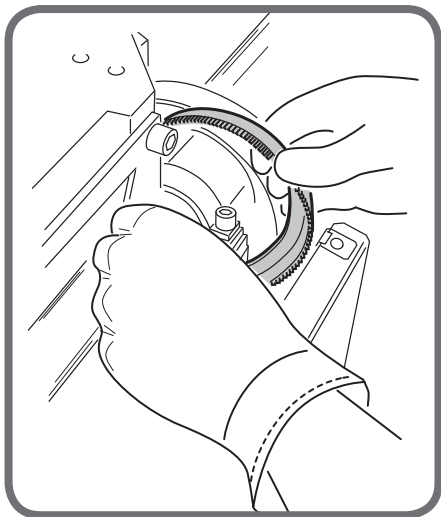

Fig.2
- unscrew the 4 fixing screws then disassemble the disk (Figs.2 and 3), after using nippers to cut the two junction teeth in line with the "0" notch;